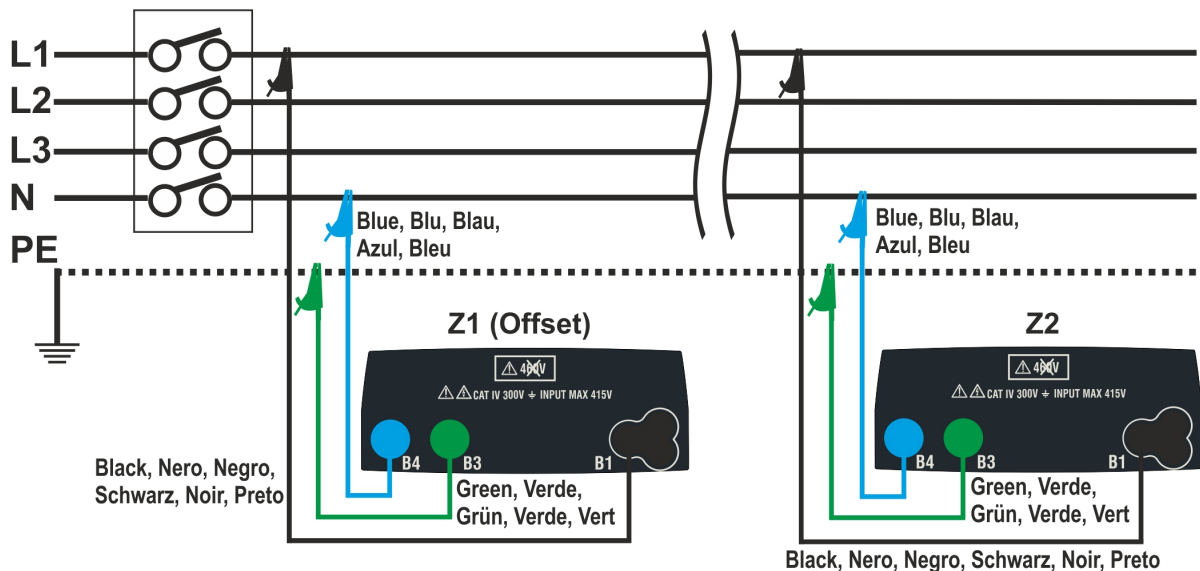
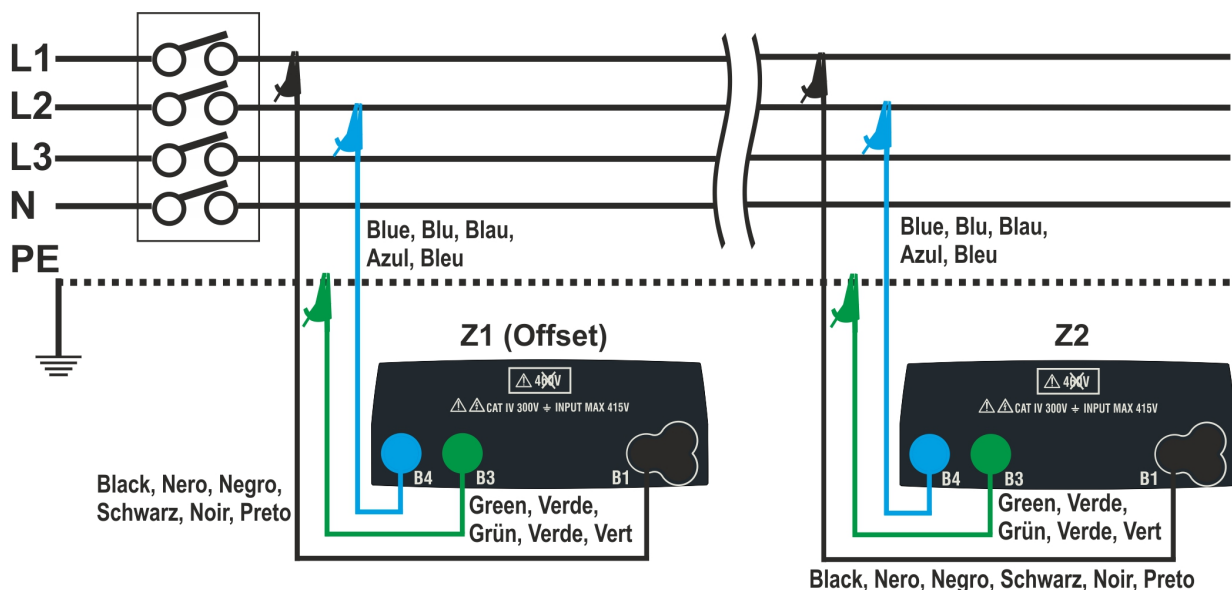

Fig. 33: Connection of the instrument for L-N mode voltage drop measurement
Fig. 34: Connection of the instrument for L-L mode voltage drop measurement
- Connect the instrument to the initial point of the mains being tested (typically downstream of a protection device) according to Fig. 33 or Fig. 34 in order to carry out the first **Z1 (Offset)** impedance measurement. In this case, the instrument will measure the impedance upstream of the initial point of the mains being tested, taking it as starting reference. The following screen (referred to L-L measurement) appears on the display.
7. Connect the instrument to the final point of the mains being tested according to Fig. 33 or Fig. 34 in order to measure the **Z2** impedance at the end of the line. Note the previously measured Z1 (Offset) value displayed.